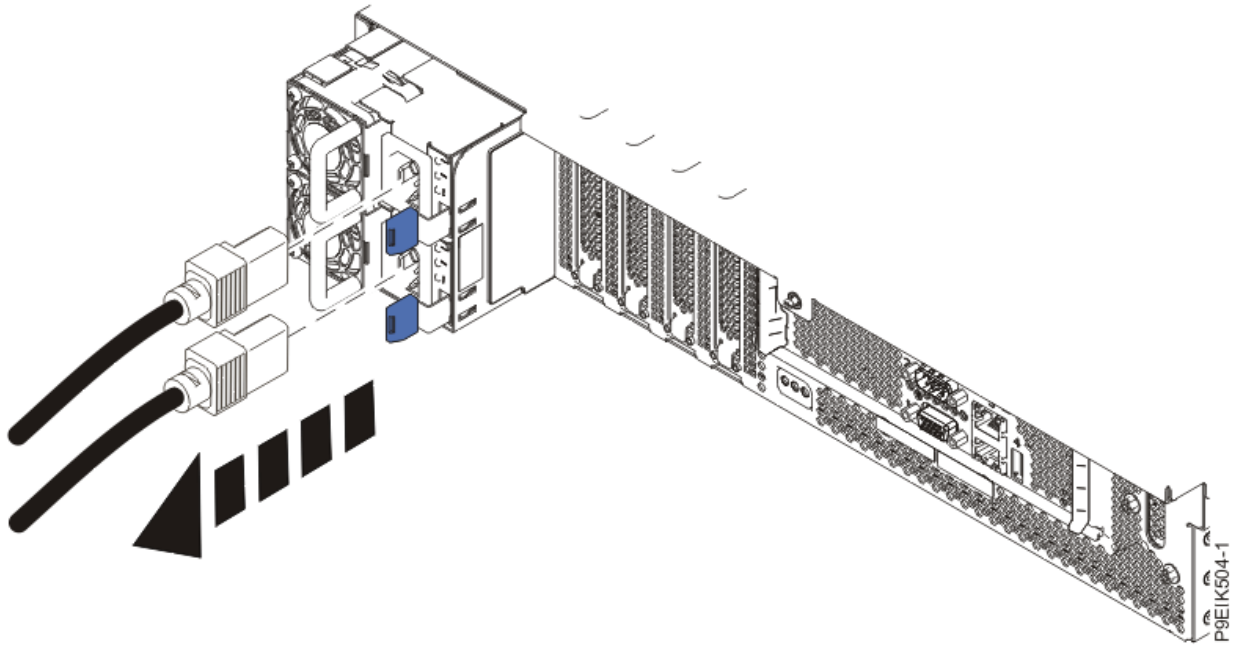

Figure 19. Removing the power cords from the system
4. Disconnect the power cords from the system unit as shown in Figure 19 on page 34.